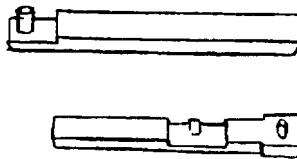

Figure 2-12. Timer Delay Assembly's Keys .
- a. Remove the four screws that hold the back cover of the delay assembly. Carefully remove cover and toggle and keys (Figure 2-12) from the housing.